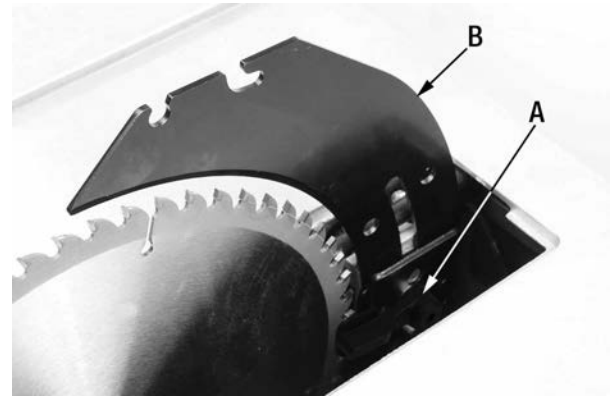

FIGURE 7
- 1) Unlock the riving knife lock lever (A) Fig.7 by pivoting it upwards (vertical position).
- 2) Push the riving knife (B) towards the riving knife lock lever to disengage it from its positioning pin/slots.
- 4) Lock the riving knife lock lever (A) Fig.7 by pivoting it downwards (horizontal position). Once secured, make sure the riving knife is perfectly aligned with the centre of the blade, if not, it is most likely due to misalignment of the positioning pin/slots, readjust until alignment is obtained.